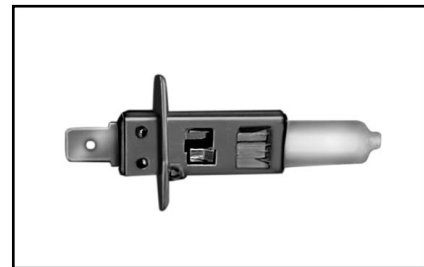

fig. 21
5) Remove the bulb and replace it with an other one of same type and power **fig. 21**.